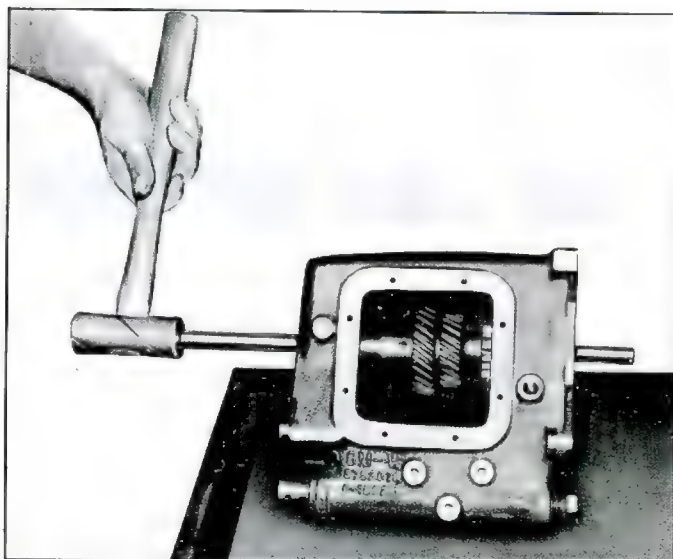

Fig. 7B-8—Removing Countergear Shaft with Dummy Shaft
3. Remove rear bearing selective snap ring, then remove rear bearing and retainer as an assembly (fig. 7B-10).